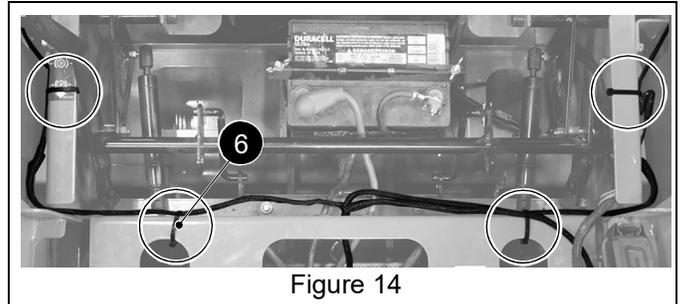

Figure 14
16. Secure headlight harness to frame using four cable ties (item 6). See Figure 14.